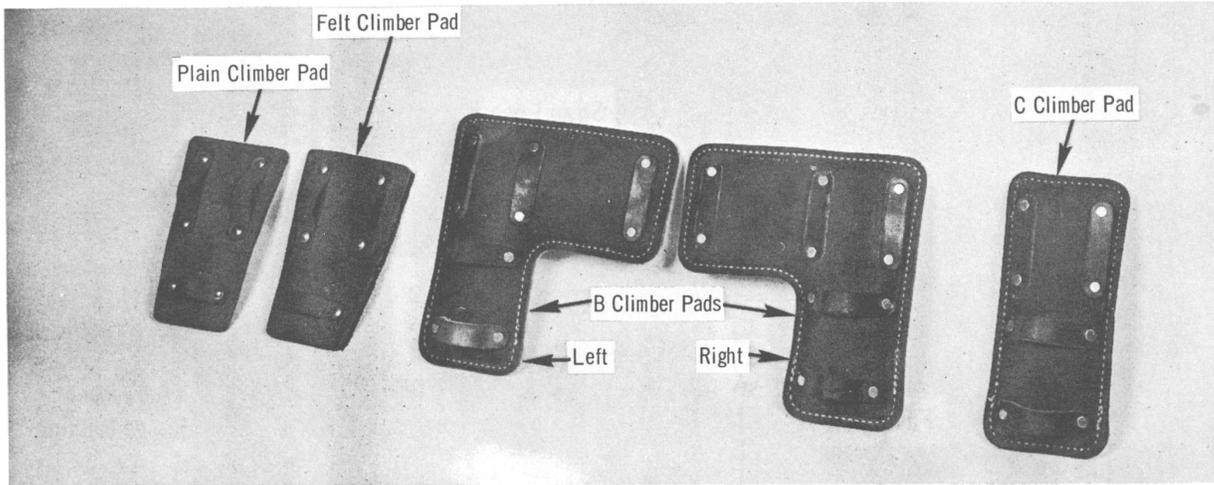

Fig. 4 — Pads
2.04 Plain, felt lined and cushion pads, Fig. 4, are available for use with climbers. Cushion pads are coded B Climber Pads (angle) and C Climber Pads (straight). Plain and felt lined